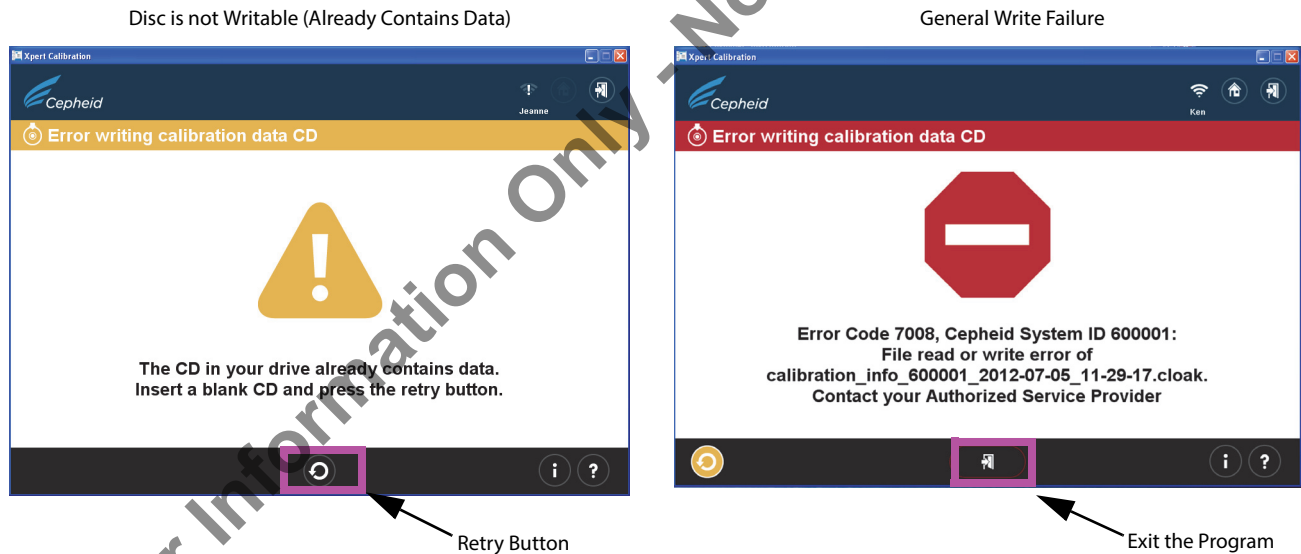

Figure 38. Error writing calibration data CD screens - Two Examples
A disc that has data on it is not considered to be a writable disc and will result in an error screen, as shown in Figure 38.
27. If a problem has occurred anytime during the CD writing process, an error code screen may appear. (See Figure 38).